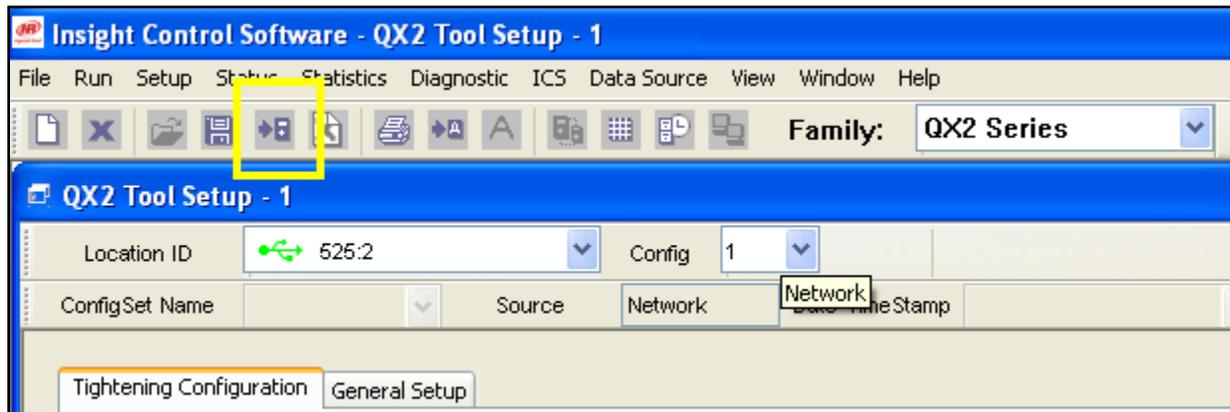

Figure 8: This button will send the data you have on the top window of the screen directly to the tool.
9. Now to set up the next configuration, you would go back up to step 6 and select 2 or 3 or 4... all the way up until you reach 8. Each time you switch configurations it will ask if you would like to send the data, hit yes. You can also manually send the data using the button in figure 8.